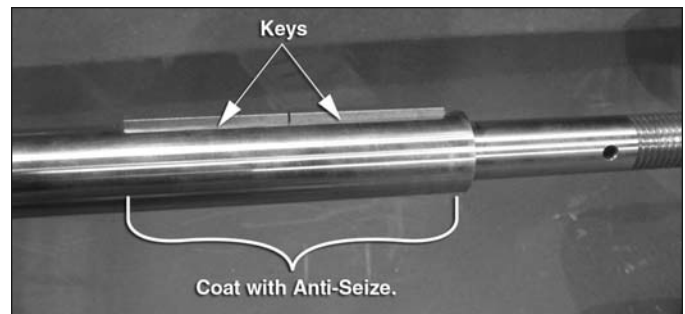

Figure 9
- Install the square key in the slot just below the threaded end of the agitator shaft. On the area where the key and agitator shaft will contact the hollow output shaft of the gear reducer, apply a liberal coating of food-grade lubricant, such as NEVER-SEEZ® White Food Grade or Loctite® Food Grade Anti-Seize. See Figure 9.